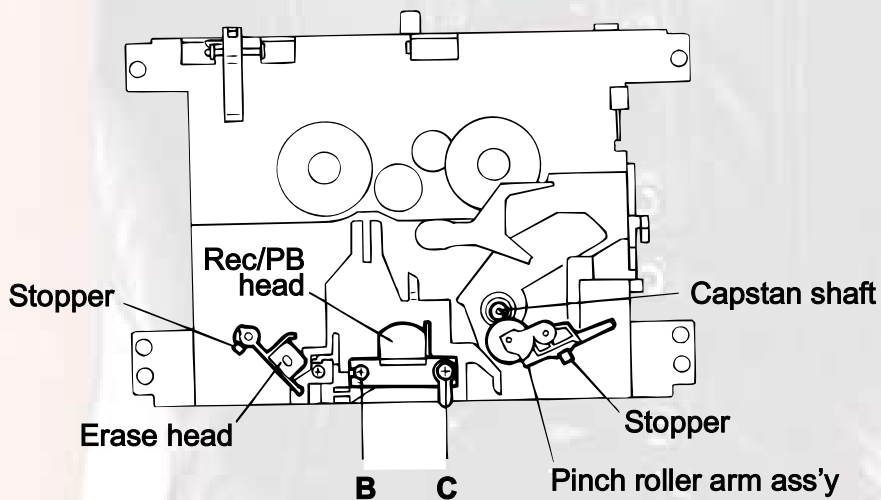

Fig.4
■ **Pinch roller arm assembly** (Fig.4 to 5)
■ **Rec/PB head and erase head** (Fig.4 to 6)